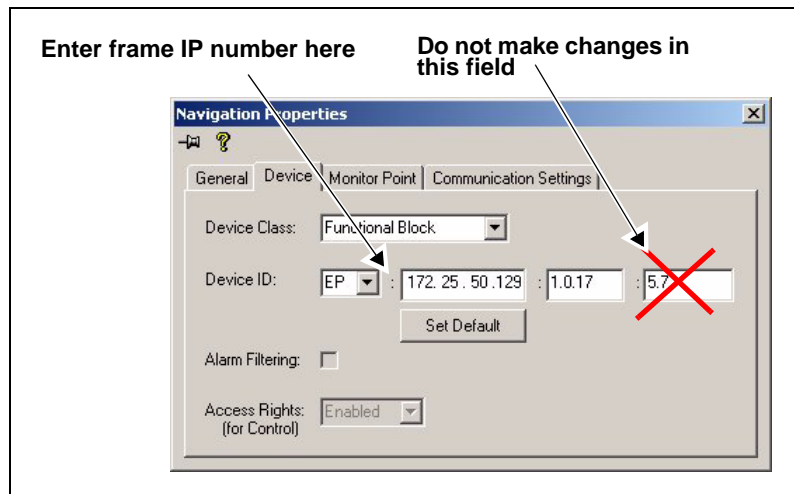

Figure 2-21. Navigation Properties Box
4. On the **NRO** or **Device** tab of the **Navigation Properties** box, enter the IP address of the frame that holds the module. (See Figure 2-21.)